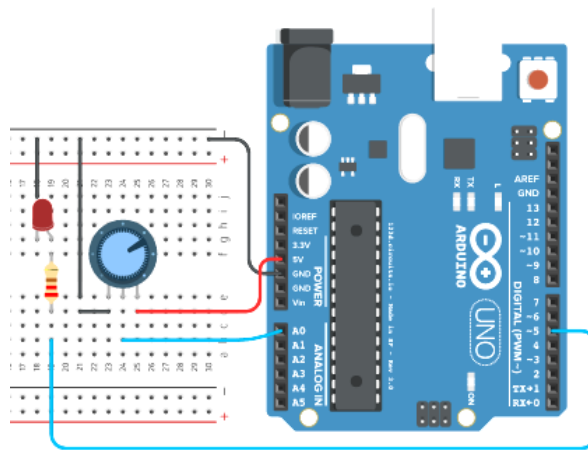

Figure 3: Voltage measurement using Analog Read
***You need to construct the circuit shown in figure 3 and download the code (Analogread.ino) from Moodle. Please go through the program and analyse the functionality of the program. Check the values being displayed on the Serial Monitor and note the changes when you increase or decrease the resistance using Potentiometer.***